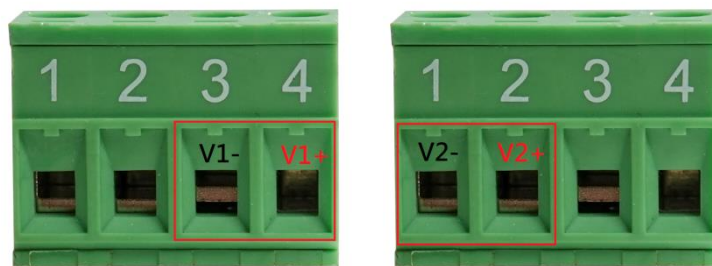

Figure 2.9: Power Terminal Block
- Step 1 Insert the positive and negative wires into the PWR1 (V1-, V1+) and PWR2 (V2-, V2+) contacts on the terminal block connector as shown below in Figure 2.9.